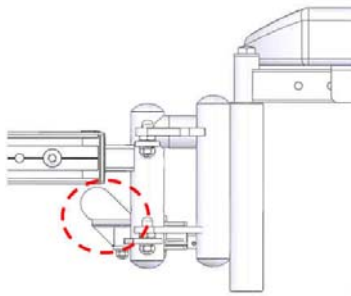
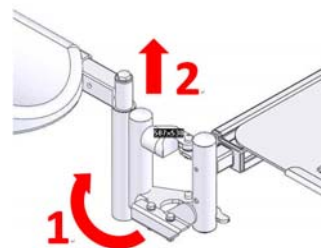

Figure 5-10
Figure 5-11
5.3.1.3.2 To swing away and detach the footrests, pull the swing-away lever (Figure 5-10), then you can swing away and/or detach the footrests. (Figure 5-11) It can make transferring in and out of the wheelchair easier.